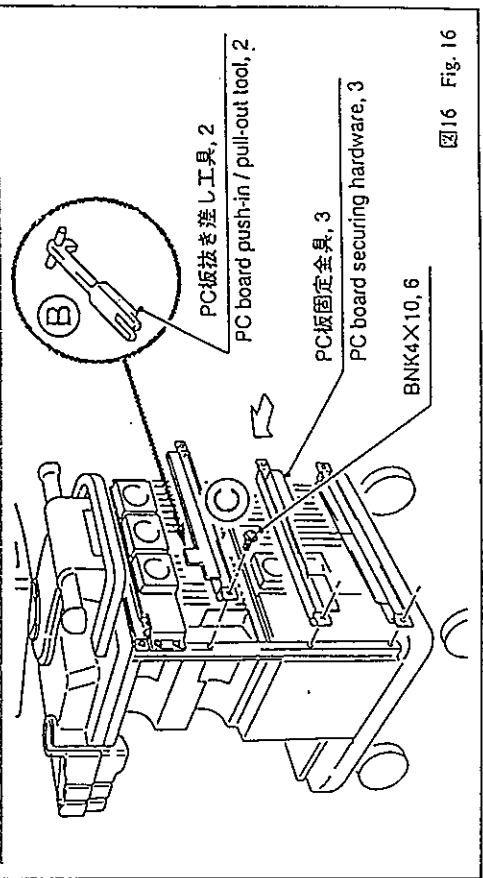

図16 Fig. 16
- (5) PC板抜き差し工具2個を、PC板固定金具の図の位置裏側にクランプする。(図16Ⓒ)
- (6) PC板固定金具3本を、ねじ各2本で取り付ける。(図16Ⓒ)
- (5) Clamp 2 pieces of PC board push-in / pull-out tool on the back of PC board securing hardware at locations illustrated. (Ⓒ in Fig. 16)
- (6) Use 2 screws to install each of 3 PC board securing hardware pieces. (Ⓒ in Fig. 16)